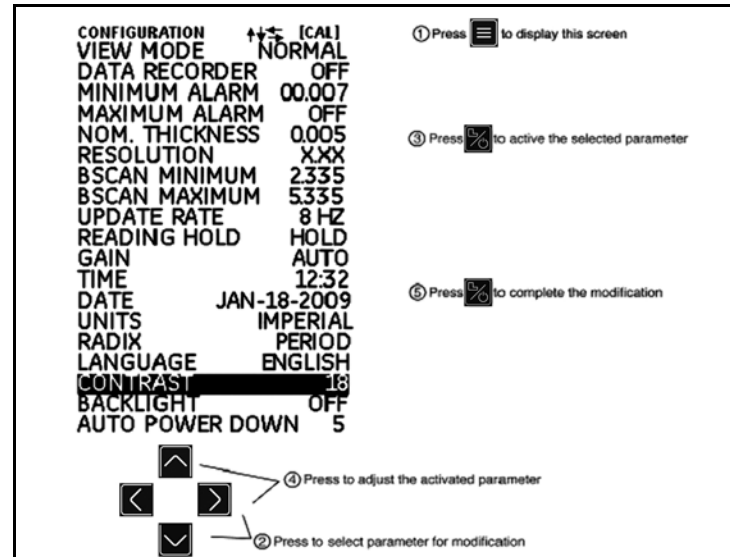

Figure 9: The Configuration Menu
Before using the DM5E, the parameters listed on the next page must be programmed at the *Configuration* display (see *Figure 9*) as follows:
1. Press  to access the *Configuration* display (see *Figure 9 on page 21*).